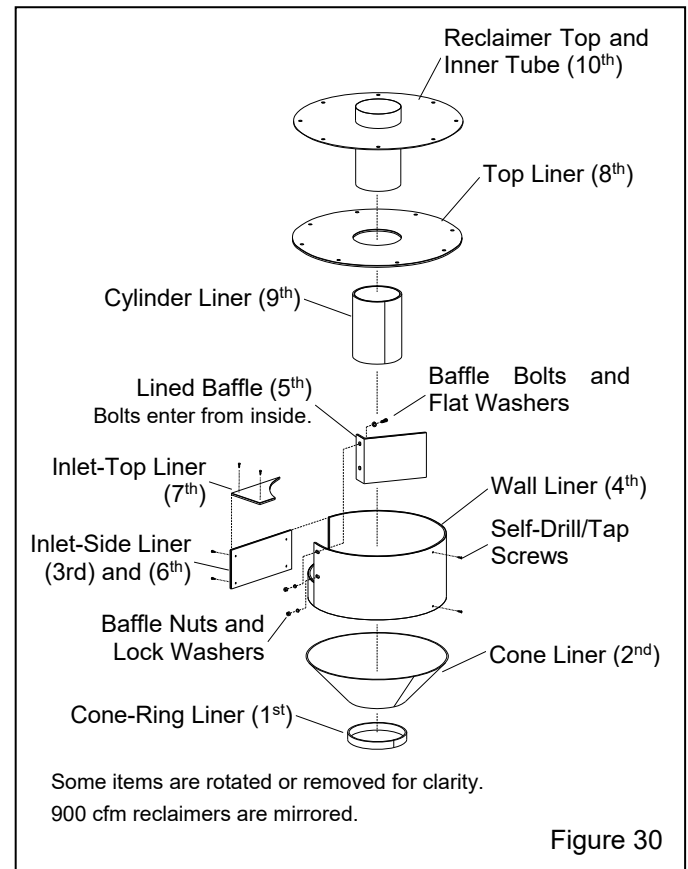

Figure 30
### 7.9 Replacing or Field Installing Optional Rubber Reclaimer Liners – Figure 30
**Installation Note:** The numbers in parentheses (-) shown in Figure 30 and their applicable paragraphs show the recommended order of installation. When installing the liners, make sure that seams are aligned. The final assembly must be smooth and free of protrusions, edges, and gaps. Any edges will disrupt the air flow, causing wear and affecting the reclaimer's media cleaning efficiency.